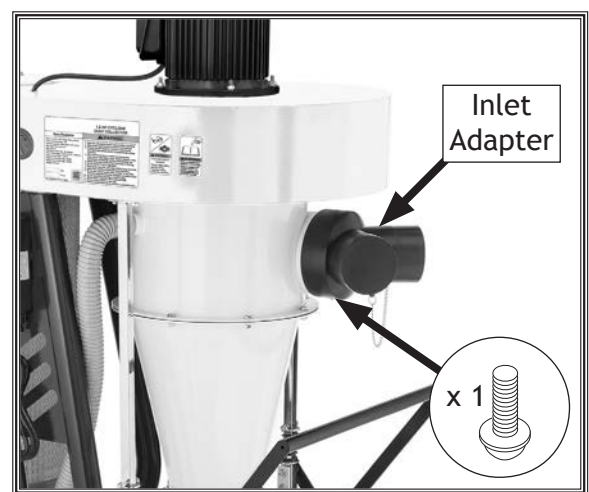

Figure 32. Inlet adapter installed on dust port.
- 34. Install inlet adapter on dust port and secure with 10-24 x 3/8" flange screw (see Figure 32).